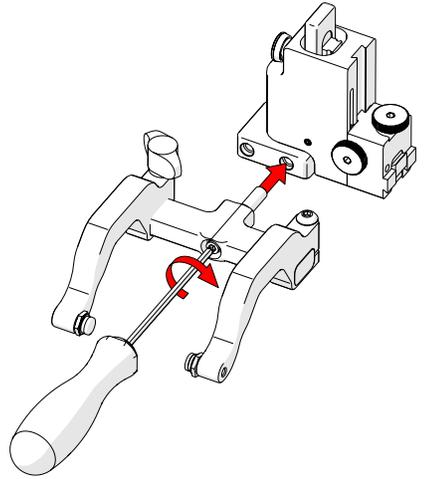

Fig. 58 - Screw into threaded hole
7. Screw the yoke to the probe holder (Fig. 58).